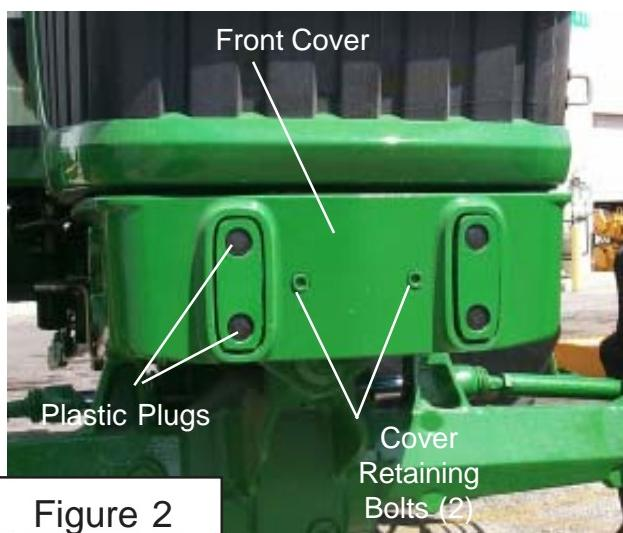
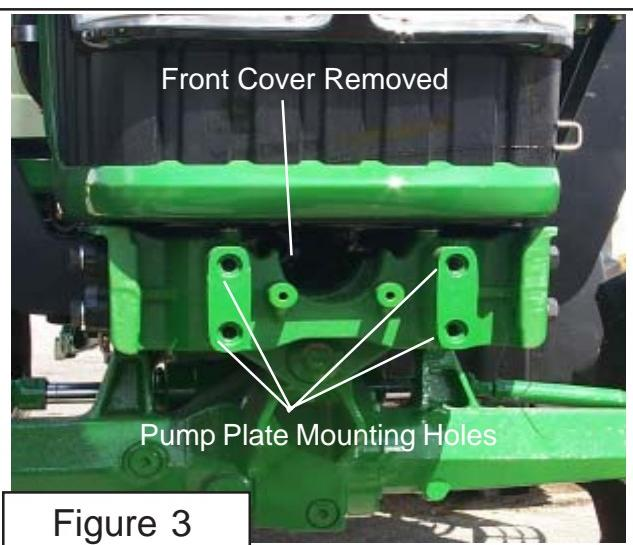

Figure 2
Figure 3
5. Looking at the outside make sure the three special Washers (**Figure 1 Item 2**) are aligned with the Slots in the Wheel Weight. Tighten the three Bolts now. You will need an assistant to hold the other Side while you are tightening the Bolts. While tightening Bolts, check to make sure the three special washers are seated correctly. If these Bolts are tightened and washer are not seated into the recess on Wheel Weight, damage will occur. (**See Figure 3**)
1. Remove Front Cover (See Figure 2), Remove the 4 plastic plugs shown in figure 1 and discard them, they will not be needed. Remove the 2 Allen Head Cover Retaining Bolts. After removal, this front cover will not be used. The front Casting will have a Driveline Hole in it. (See Figure 3). This will be the same on 2 WD or 4 WD.
5. Install Shaft End of Driveline / Engine end. Install the Shaft 1/2 Assembly w/ Flanged Yoke into the Engine compartment of Tractor, install it from the LH front Side down and under radiator. (**See Figure 6**). This needs to be installed this way because the Flange Yoke will not go through the Crankshaft access hole in the front of the Tractor (**See Figure 3**). Bolt the Flange Yoke to the Pulley Adapter using the four 7/16" X 1-1/4" Bolts (Part # 02976344), use the four Lock Washers (Part # 00022200), put Locktite on the threads of the Bolts and install them into Pulley Adapter. To Tighten these four Bolts, use a long extension and go through the front Crankshaft Pulley access hole in front of Tractor. Do Not use bolts longer than 1-1/4" long, longer bolts will damage Crankshaft Pulley.